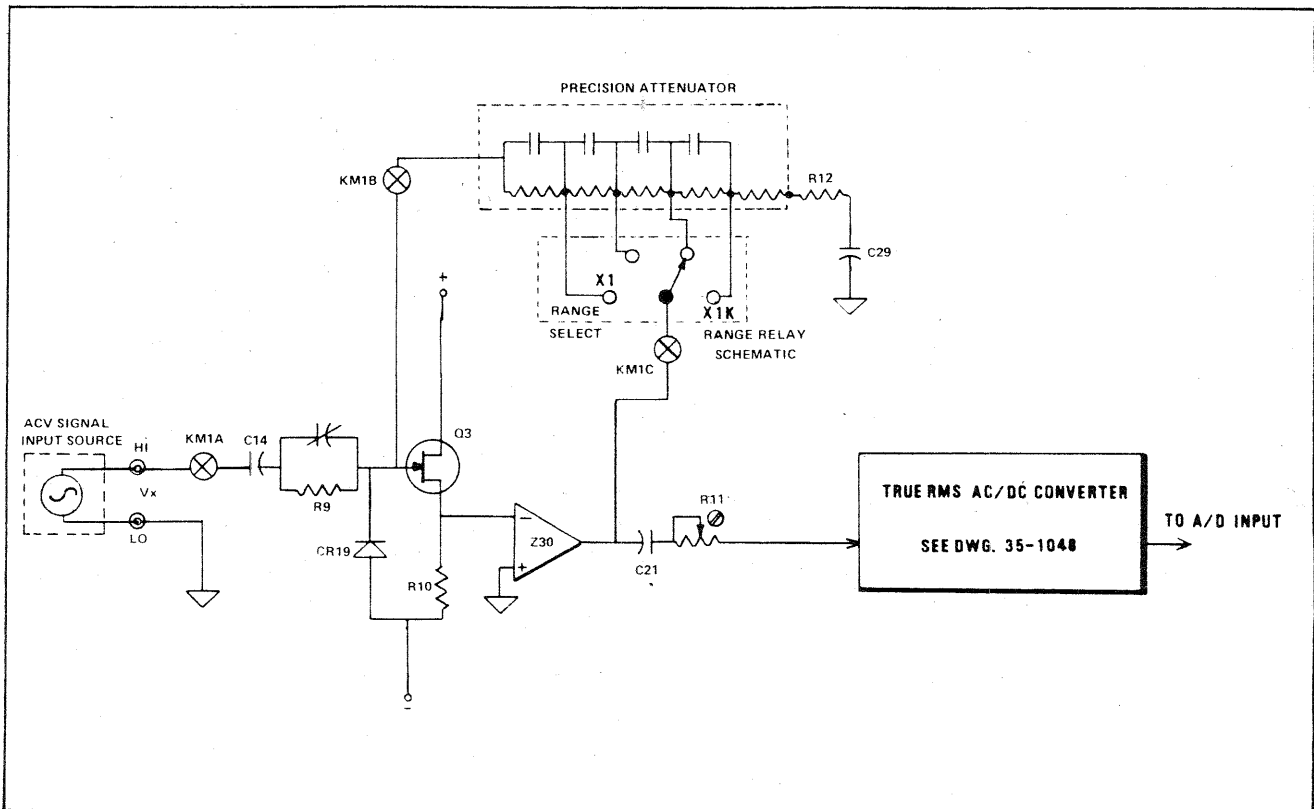

Fig. 4-4. AC Input Signal Conditioning, simplified schematic
4.4.2 ACV Measurement Mode Signal Conditioning (Figure 4-4).
When in ACV mode, the input AC signal is connected to an active broad band attenuator configured by the action of the mode relay and the range relay contacts. The mode relay (KM) contacts connect the precision attenuator in the feedback path of an operational amplifier, providing the instrumentation for range scale attenuation, as shown in Figure 4-4. The attenuated AC signal is then processed by the RMS Converter circuit so that the attenuated